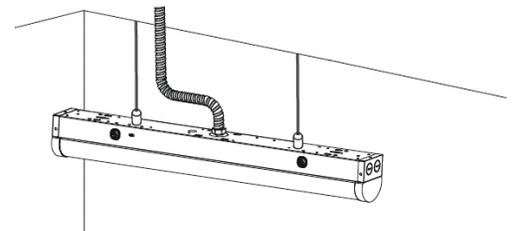

Fig. 12
7. The installation is now complete. If disassembly is required, push both buttons located on the opposite ends of the fixture (Fig. 12).